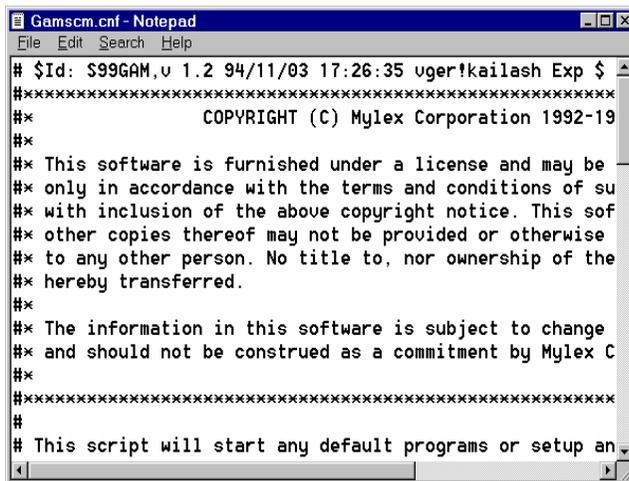

Figure 3-23. GAMSCM.CNF Under Notepad
8. Click Yes in the Modify Configuration File message box. Notepad opens with GAMSCM.CNF (Figure 3-23).